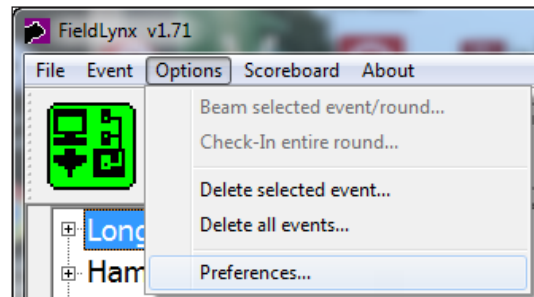

Figure 73: FieldLynx Options Menu
2. To access the connection settings in FieldLynx, open the software and go to **Options > Preferences (Figure 73)**.